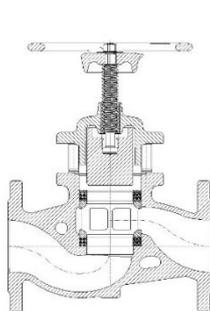

Figure 1
- » Now slightly twist the bonnet (Pos. 2) so that the bonnet flange is braced on the stud bolt faces (Pos. 19). Rotate the handwheel counterclockwise (opening direction), until the piston (Pos. 4) is fully pulled out of the upper valve ring (Pos. 14) (see Figure 1)
- » Subsequently lightly turn bonnet (Pos. 2) out of position, so that the bonnet flange can rest on the stud bolt faces (Pos. 19). Turn the handwheel counterclockwise (opening direction) until the piston (Pos. 4) is fully pulled out of the upper valve ring (Pos. 14) (see Fig. 1)